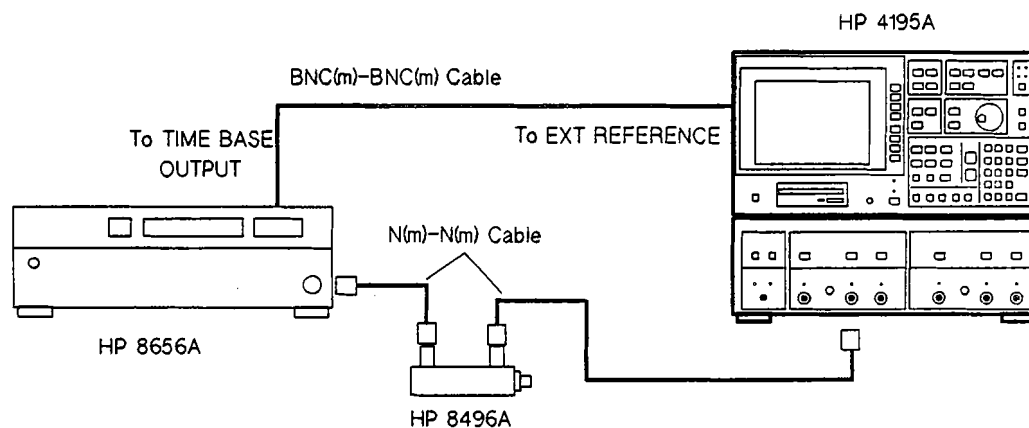

Figure 2-4. Amplitude Measurement Accuracy Test Setup
7. Disconnect the N(m)-N(m) cable from the Power Sensor, and connect it to HP 4195A **INPUT R1** as shown in Figure 2-4. Connect the BNC(m)-BNC(m) Cable between the Signal Generator's **TIME BASE OUTPUT** connector and the HP 4195A's **EXT REFERENCE** connector.